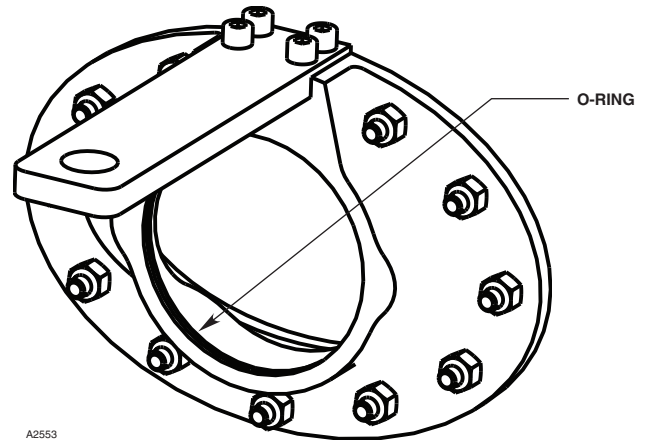

Figure 6—Location of O-Ring on Flange Mount Assembly
5. Inspect the o-ring on the flange mount assembly to ensure that it is in good condition. See Figure 6. If it appears dry, apply a thin coating of silicone-free grease to ease installation of the flame detector.